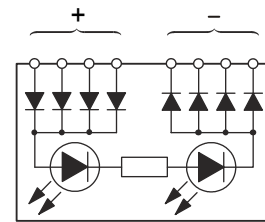

Fig. 6
4. Connect alarm indicator in accordance with connection diagram (Fig. 6).
3. Connect alarm indicator in accordance with connection diagram (Fig. 6).